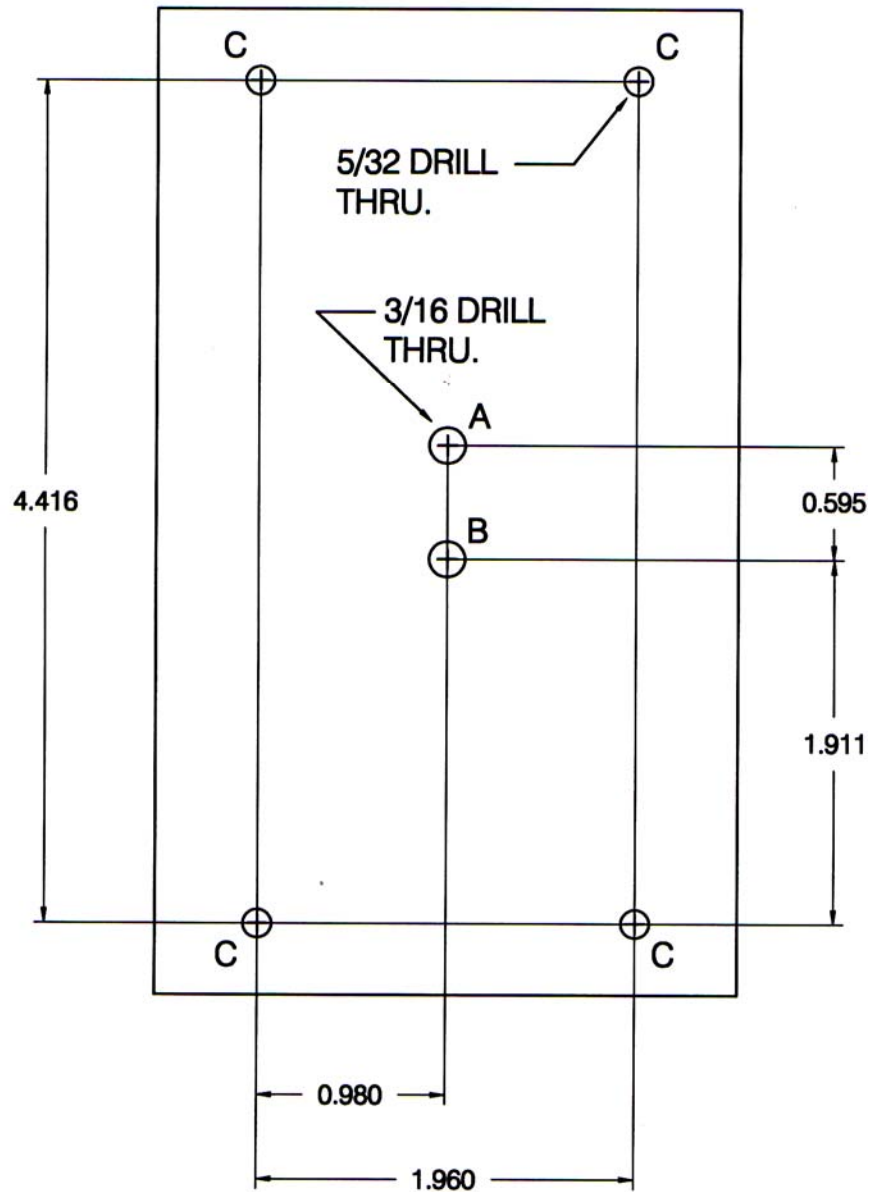

FIGURE 6
2. Using the attached drill template for proper hole location (refer to Figure 6), drill base mounting holes (C holes) and harness feed through A & B holes.